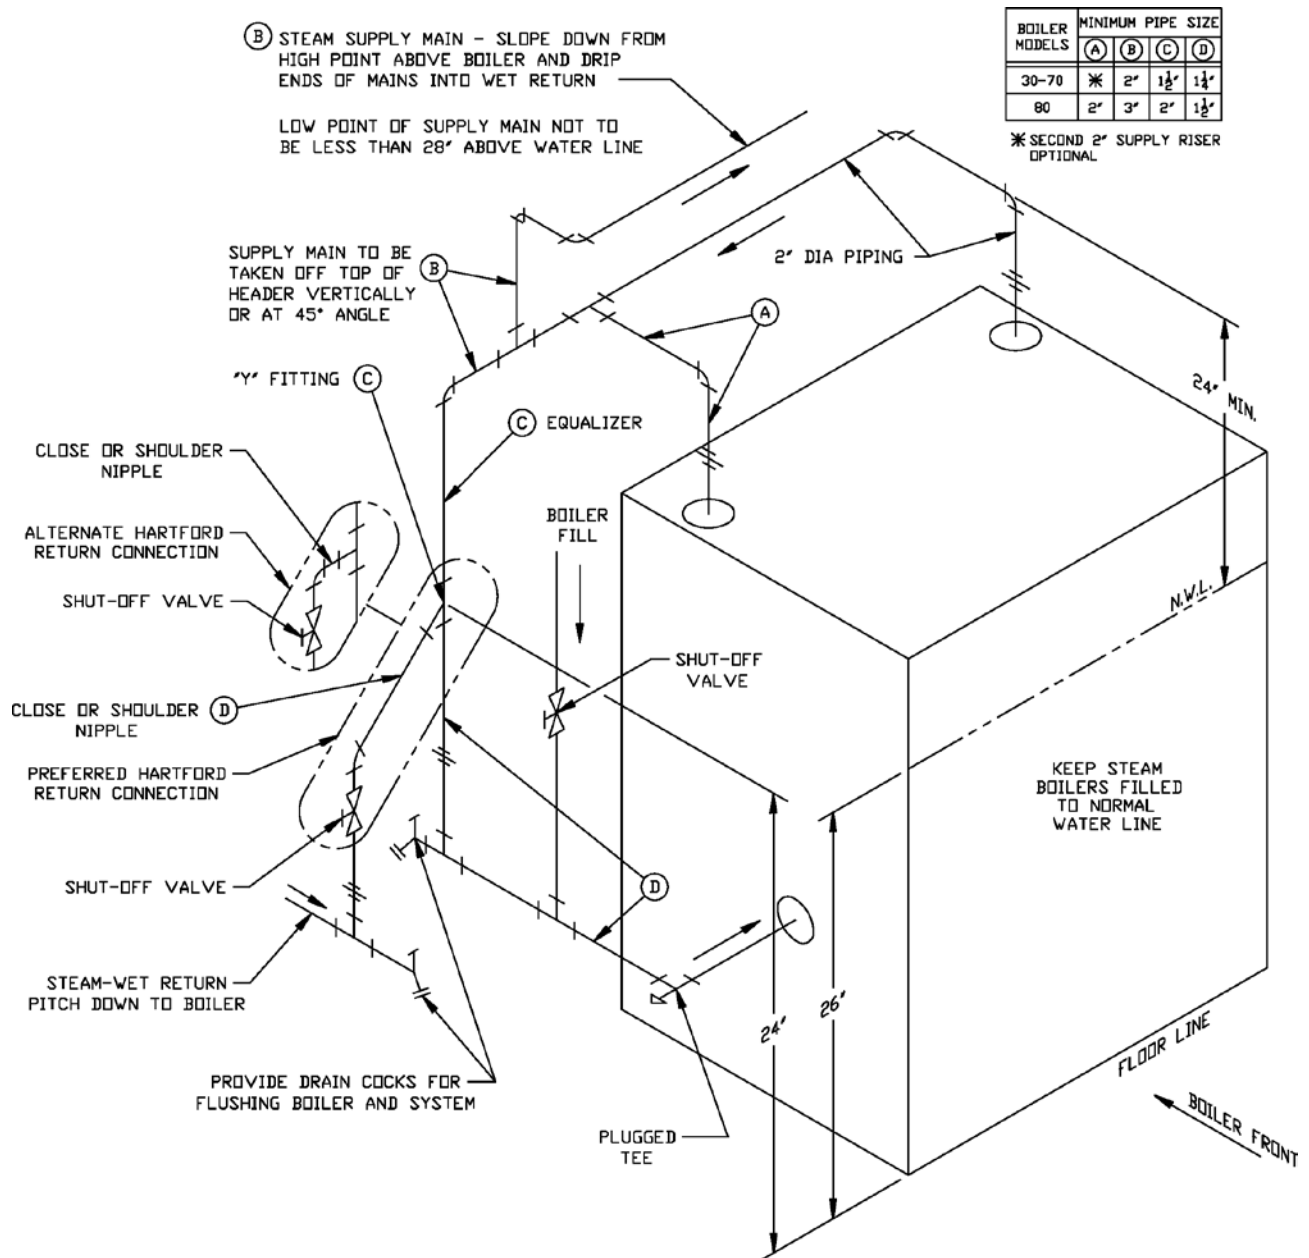

Figure 6: Recommended Boiler Piping for Gravity Return
- See Figure 6. Also consult Residential Hydronic Heating Installation and Design I=B=R Guide. Maintain minimum 1/2 inch clearance from piping to combustible materials.